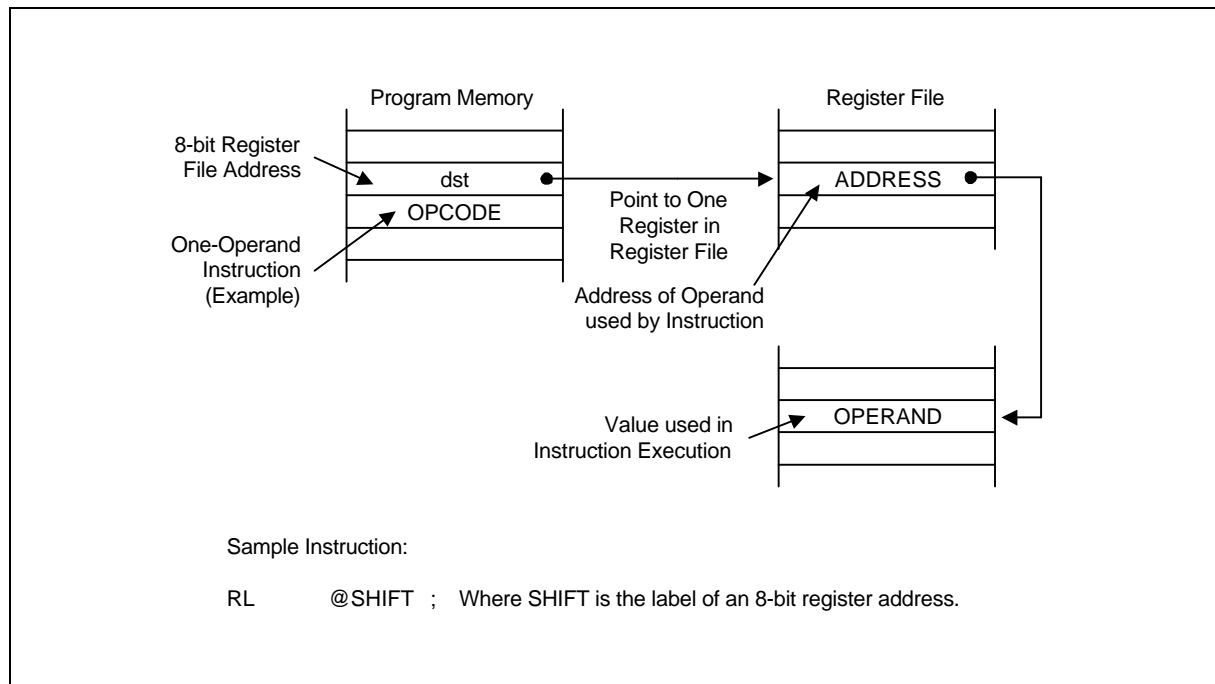

Figure 3-3. Indirect Register Addressing to Register File
In Indirect Register (IR) addressing mode, the content of the specified register or register pair is the address of the operand. Depending on the instruction used, the actual address may point to a register in the register file, to program memory (ROM), or to an external memory space, if implemented (see Figures 3-3 through 3-6).